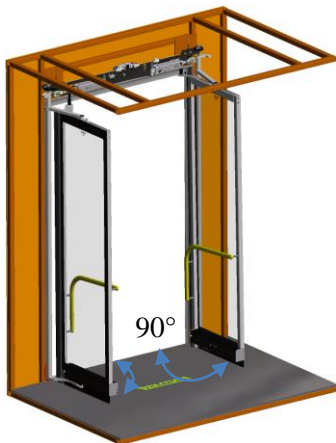
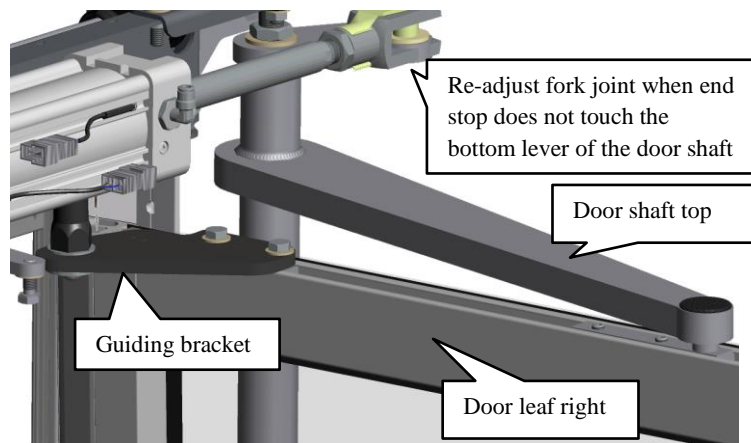
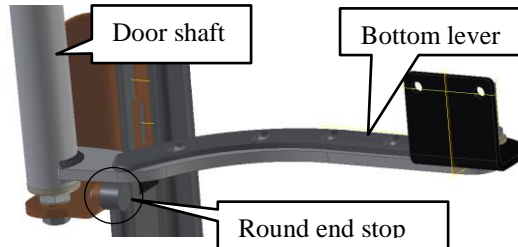

Figure 1.8: Right door angle
Figure 1.9: Adjustment of fork joint and guiding bracket
Figure 1.11: Round end stop
3.	<p>Check if in a fully open position the door shaft bottom lever touches the rubber cover plate on the door leaf as seen in Figure 1.8. If the door system doesn't have the commonly applied cover plate, it is possible the bottom door shaft lever has a round end stop (Figure 1.9). In this case the door leaf should touch the round end stop on the bottom door shaft lever when the door is in a fully open position.</p> <p>In some rare cases there is an extra end stop on the door shaft top lever (Figure 1.11). Check if the door leaf touches the end stop when in a fully open position.</p> <p>Note: Each side may have a different kind of end stop.</p>